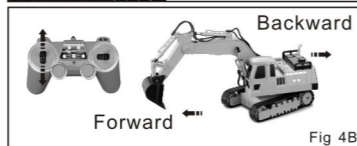

Fig 4B
1. Forward/backward: To push the Left Trigger ahead/back, the truck would go forward/backward; when forward, the lights on front and back would be lighted on; backward, the lights would be flashed (turn off when in a mute station) (Fig 4B)